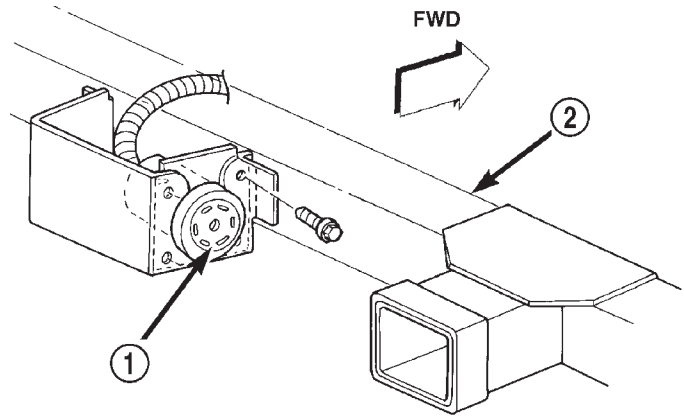
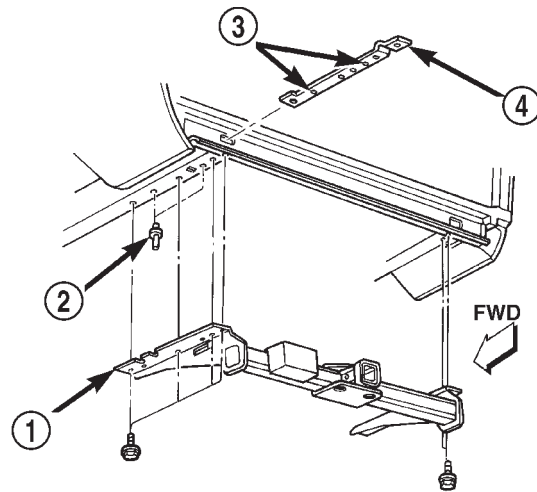

Fig. 4 Trailer Hitch Harness Connector
Fig. 5 Trailer Hitch
- (1) If necessary, remove the trailer tow wire harness connector from the hitch (Fig. 4).
- (2) Support the hitch.
- (3) Remove the bolts that attach the trailer hitch to the frame sills and reinforcement brackets (Fig. 5).
- (4) If equipped, remove the fuel tank skid plate.